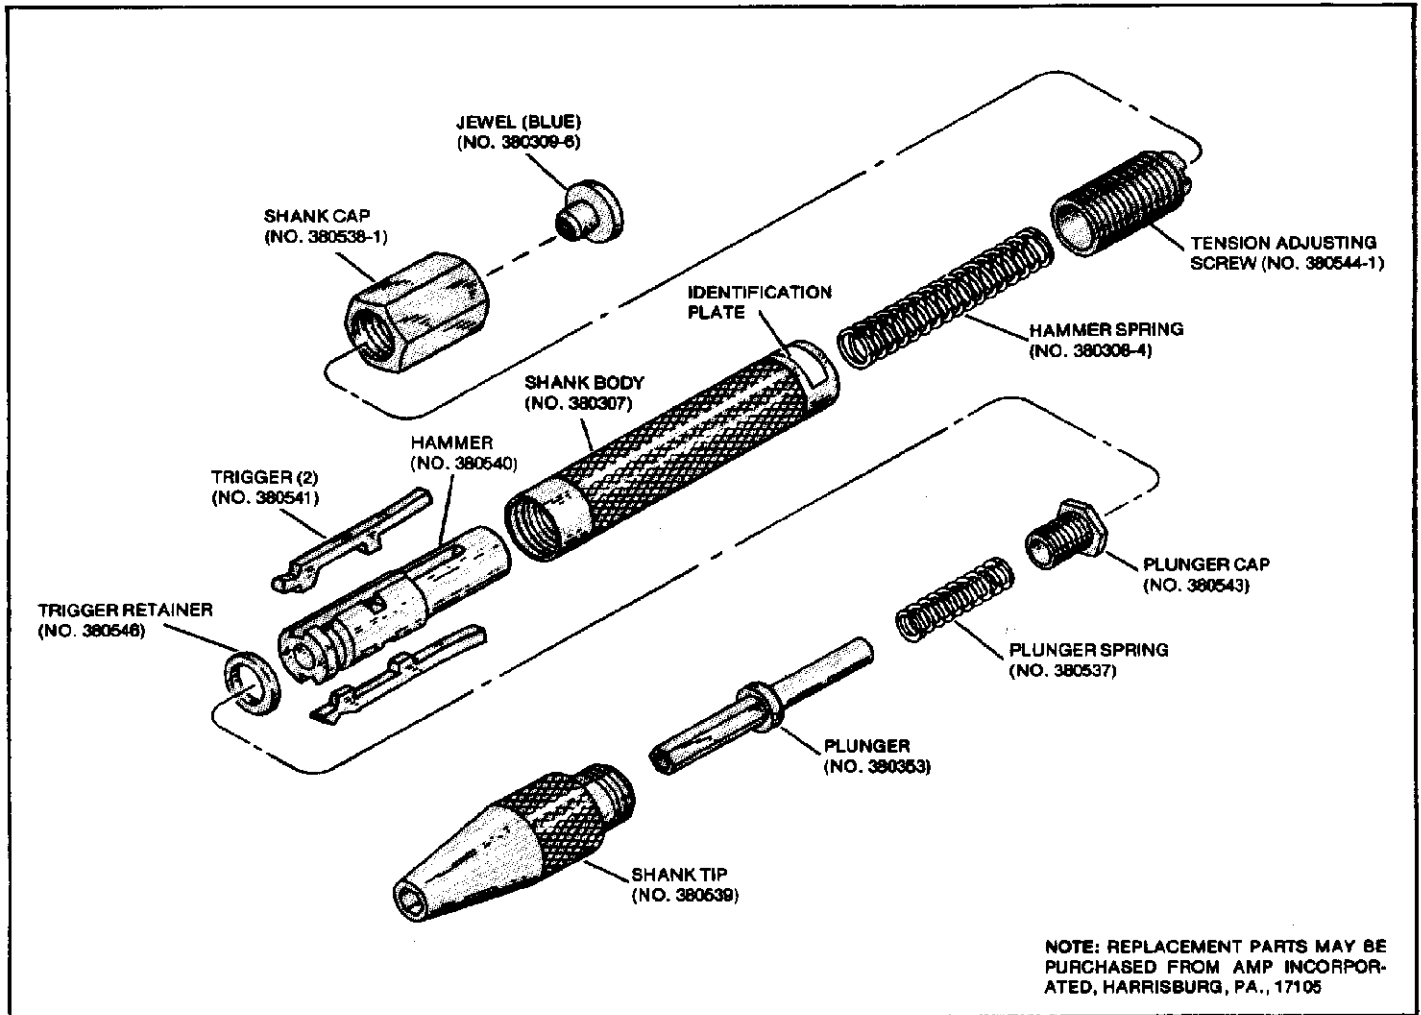

Figure 3
- (d) Place shank cap (Figure 3) in vise and turn shank body counterclockwise one full turn.
- (e) Turn tension adjusting screw (Figure 3) clockwise to increase or counterclockwise to decrease the trip force.
When field maintenance of this tool is anticipated, it will be advantageous to stock certain replaceable parts. Figure 3 illustrates and identifies replaceable